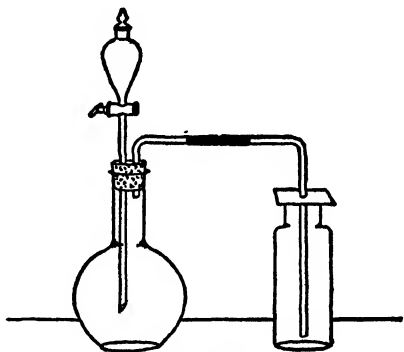

FIG. 19.
c. [Hood.] In a 250 c.c. flask (Fig. 19), fitted with dropping-funnel and L-shaped delivery tube, place about 30 g. of common salt. Use the shortest possible rubber connections here, and in 41 b (chlorine), as rubber tubing is destroyed by these gases. Admit concentrated sulphuric acid through the funnel. Collect the gas in three dry bottles by upward displacement, allowing the tube to pass through a perforated square of paper or card so that the gas may not escape into the room. Cover, when filled, with glass plates and reserve for 37. Place about 10 c.c. of distilled water in a test-tube, attach a nozzle to the delivery tube, and allow the gas to bubble into this for a few minutes (?). Reserve the aqueous solution also for 37. Write equations for the two possible interactions of salt and sulphuric acid. Which of the two takes place under the above conditions?
a. [Hood.] Fit up a 250 c.c. generating flask, as in Fig. 19, with a dropping-funnel and an L-shaped glass tube attached to the exit tube. Use the shortest possible rubber connections here (?). Test the apparatus to see that it is air-tight. Place in the flask about 20 g. of dry potassium permanganate, and fill the globe of the dropping-funnel with diluted, concentrated hydrochloric acid (1 water : 3 acid). [CAUTION! Do not use any other acid, by mistake.] Allow the delivery tube to dip to the bottom of a small beaker containing a little sodium hydroxide solution. Now admit the acid drop by drop, regulating the flow so that too rapid a stream of gas is not produced. The complete displacement of the air in the flask will be recognized by the color of the contents and the fact that the bubbles of pure chlorine are completely absorbed by the sodium hydroxide.